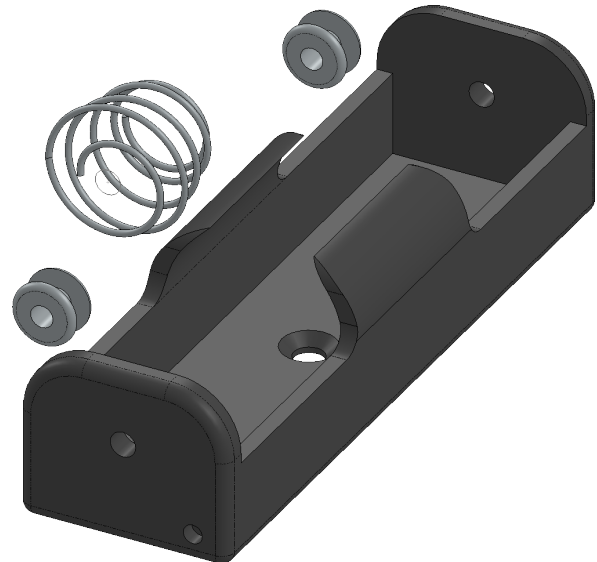

Fig. 2
Step 8. Place **two Rivets** as positioned in **Fig. 2**.
Step 9. Browse and place **Spring**, **Fig. 2**.